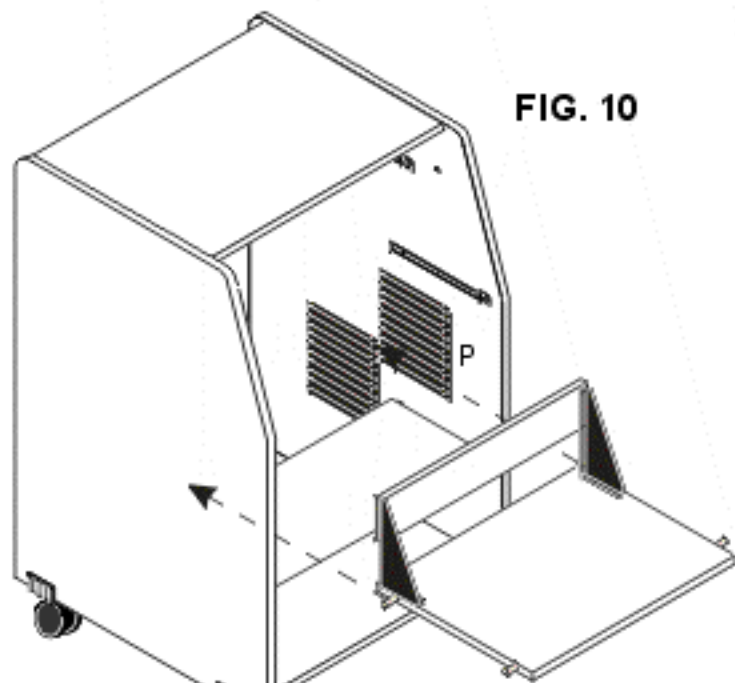

FIG. 10
Align and install MONITOR SHELF onto FRONT MONITOR SUPPORT TRACKS (P) FIG. 10. Engage REAR pins on edge of panel into track and slide back. Lift slightly to engage in second set of TRACKS as shelf is pushed in. Engage FRONT pins on SHELF onto FRONT MONITOR SUPPORT TRACKS. MONITOR SHELF may be left in horizontal position for loading monitor onto shelf.